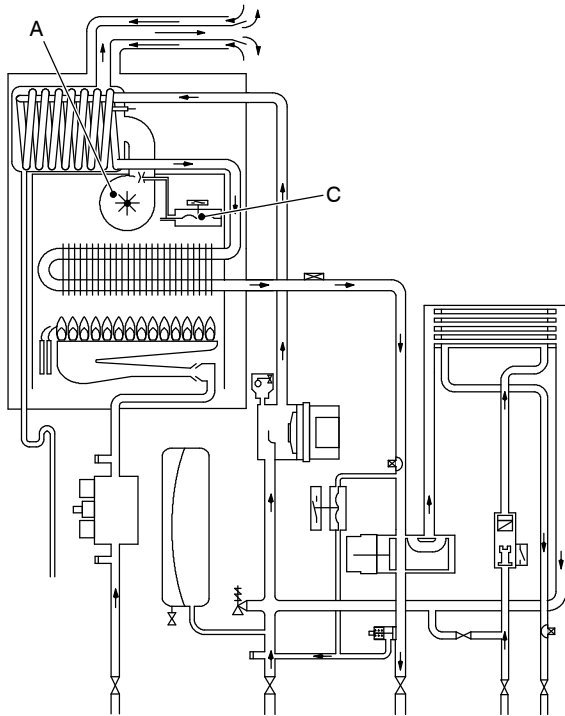
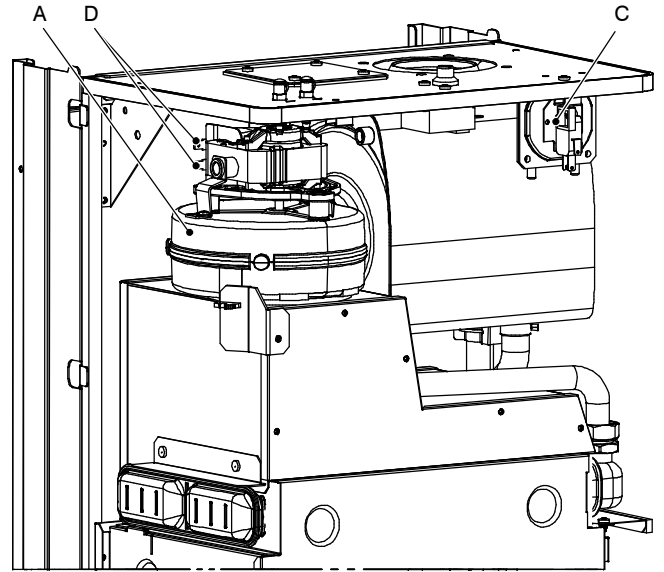
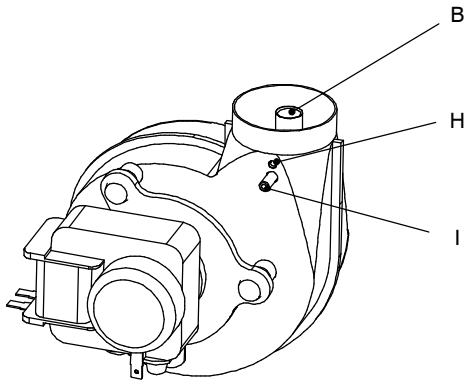

Fig. 67
Fig. 68
Fig. 73
The function of the Fan *A* (Fig. 67 and Fig. 68) is to force the products of combustion through the condensing heat exchanger to the outside air via the flue system.
Its correct functioning is controlled by means of a system incorporating a built in venturi device (*B* in Fig. 73) and an Air pressure switch *C* (Fig. 67 and Fig. 68).
- 2 Disconnect the connectors *D* (Fig. 68) and measure the electrical resistance of the motor that has to be about:
- 2 Disconnect the connectors *D* and the earth connection *E* (Fig. 68).